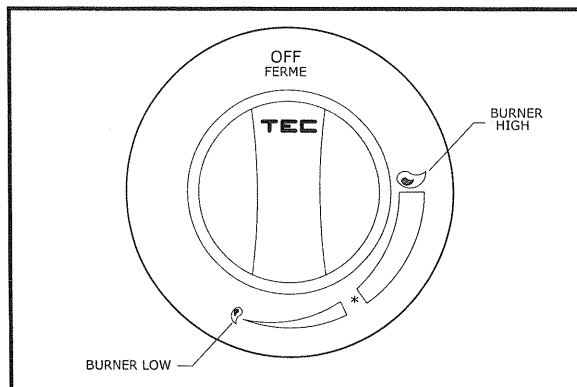

Figure 6. Burner Output Knob
1. Insure that the Burner Output Knob is in the OFF position. (See Figure 6.)
2. Insure Burner Output Knob is in the OFF position. (see Figure 6.)